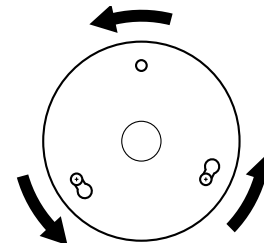

Figure 7b - Mounting the Upper Switch Housing
4. Turn the upper switch housing counterclockwise until the housing assembly screws are firmly situated in the narrow end of the keyhole slots as shown in Figure 7b. Install the one remaining #6-32 x 3/8" housing assembly screw into the third hole in the upper switch housing. Tighten all three screws firmly.